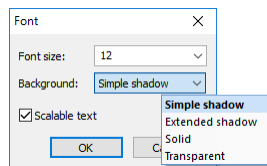

Figure 197 – Font dialog
**Font size**, **Background** and **Scalable text** options can be set for measurement's texts in the **Font** dialog (see Figure 197) that is displayed by clicking the **Font** item in the context menu of any measurement .